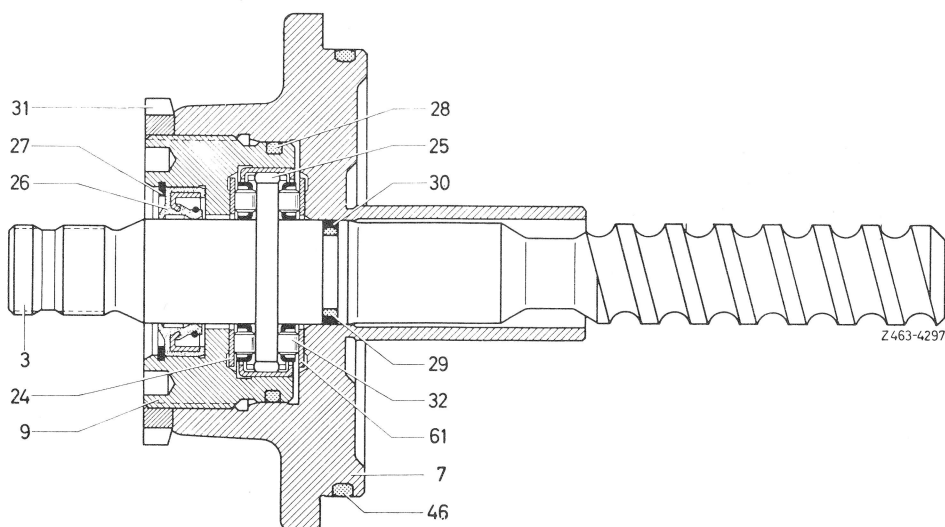

Fig. 6
6 Check needle bushing (25) for wear. Completely replace bearing insert (9), if the needle bushing is damaged. (Fig. 6).